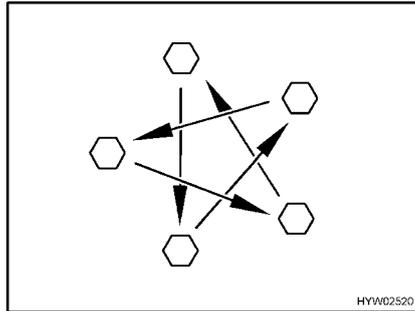

Fig. 317 Tighten the wheel nuts or wheel bolts cross-wise
- Check regularly that the wheel nuts or wheel bolts are firmly seated. Re-tighten the wheel nuts or wheel bolts of a changed wheel after 50 km (30 miles) (Fig. 317).
- When using new or newly painted rims, re-tighten the wheel nuts or wheel bolts once again after approx. 1,000 to 5,000 km (600 miles to 3,000 miles) (Fig. 317).
- ▷ Tighten the wheel nuts or wheel bolts cross-wise (Fig. 317).